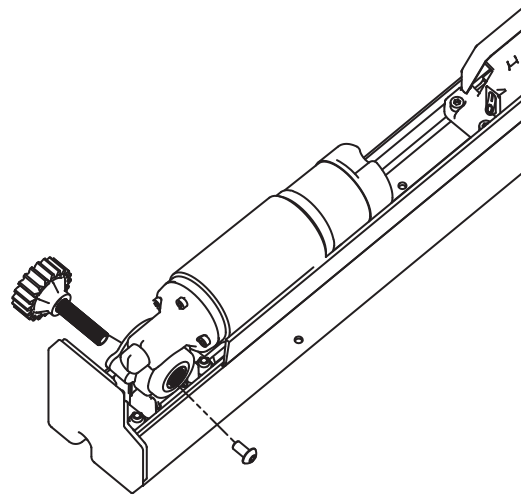

Figure 11: Insert the Motor Wheel from the Opposite Side
3. Insert the motor wheel on the opposite side of the motor and tighten the bolt using the hex key. Change the motor wheel if required. See Fig 11.